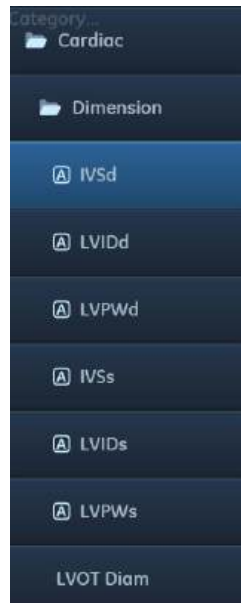

Figure 8-40. Automatic B-mode measurements
2. Select **Auto** to initiate the automatic measurements. The **Auto** buttons indicate which B-mode measurements are available, see Figure 8-40. By clicking any **Auto** button, all the available automatic B-mode measurements are performed.